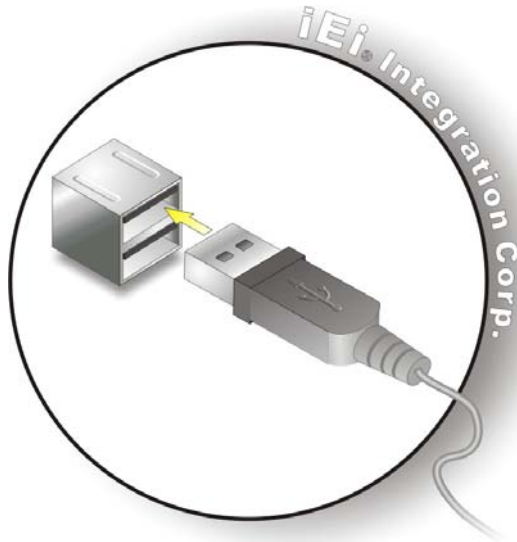

Figure 3-22: USB Device Connection
Step 2: **Align the connectors.** Align the USB device connector with one of the connectors. See **Figure 3-22**.